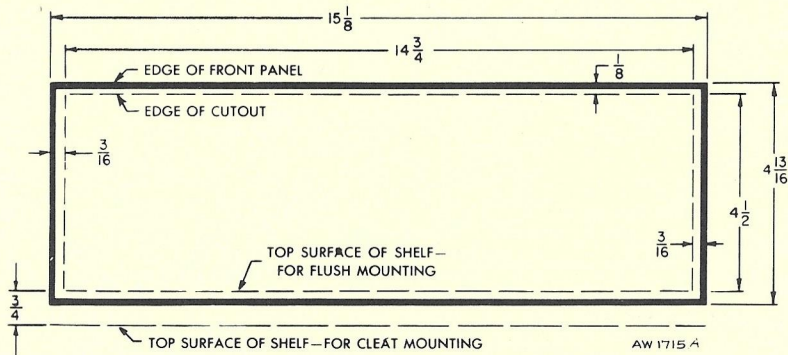

FIGURE 5. Front panel cutout
- 3—Saw a cutout through the front panel of your cabinet ($4\frac{1}{2}$ inches by $14\frac{3}{4}$ inches) as shown in Figure 5. The bottom edge of the cutout should be on a level with the top of the two cleats.
- 3—Saw a rectangular cutout through the front panel of the cabinet ($4\frac{1}{2}$ inches by $14\frac{3}{4}$ inches) as shown in Figure 5. **IMPORTANT:** Note that the bottom edge of the cutout is flush with the top of the mounting board.